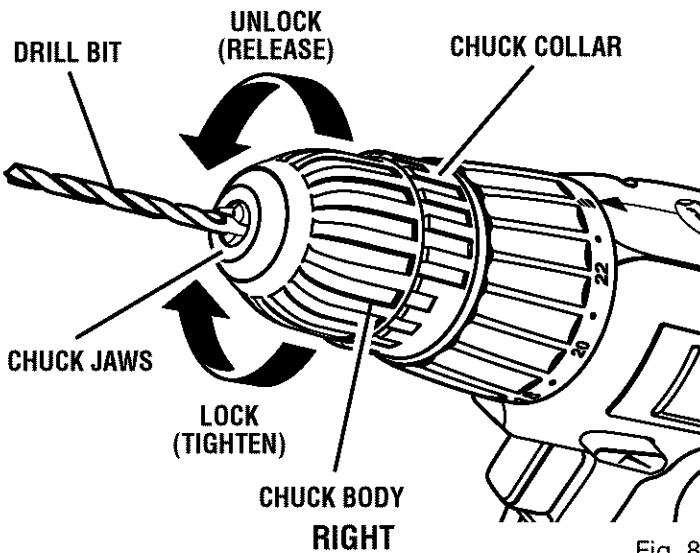

Fig. 8
See Figure 8.
- Insert drill bit straight into chuck the full length of the jaws as shown in figure 8.
WARNING: Make sure to insert drill bit straight into chuck jaws. Do not insert drill bit into chuck jaws at an angle then tighten, as shown in figure 8. This could cause drill bit to be thrown from drill, resulting in possible serious personal injury or damage to the chuck.